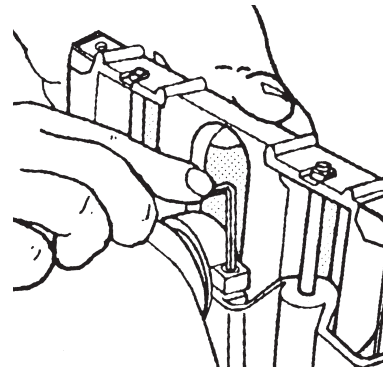

Figure 96
3. Use a 5/32" Allen Wrench to tighten the Socket Head Screws on the Saw Guard Retainer, as seen in Figure 96.